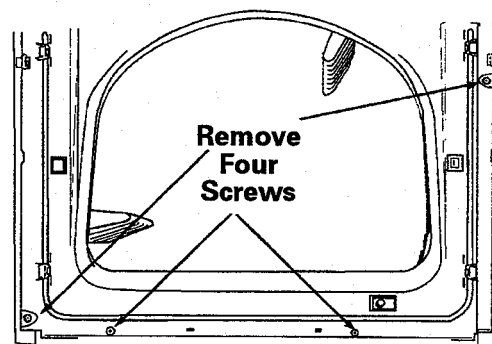

Figure 2-30
2. Remove the two screws securing the shroud to the tumbler front and the two screws securing the shroud to the outlet duct. Pull the shroud free from the assembly, see **Figure 2-30**.